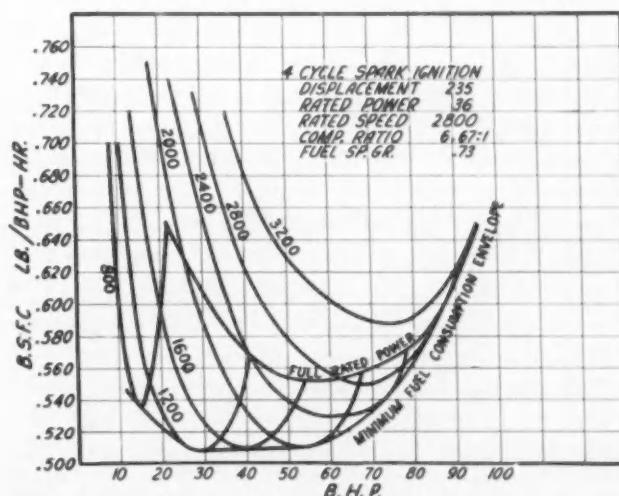

Fig. 2—Typical fuel consumption characteristics of a spark-ignition gasoline engine
Fig. 2 shows the brake specific fuel consumption over the entire speed and load range of a modern commercial gasoline engine. These complete data were available only from the 100-hp engine shown. Typical performance data from large truck type engines of 150 to 250 hp with compression ratios of 5.5 to 6.0 to 1, give brake fuel consumption figures slightly higher than shown for the smaller engine. Thus the comparison with a 200-hp diesel engine is believed to be, if anything, favorable to the gasoline engine.
The carburetor of the engine shown in Fig. 2 was calibrated for best economy at part load and for maximum power at full throttle. Actual economy setting of a commercial carburetor for a multi-cylinder engine is always richer than the lean limit for ignition by the amount required to cover variations in distribution, acceleration, temperature changes, and so forth. The full-throttle setting is usually richer than the theoretically correct proportion to increase the maximum power rating and to avoid detonation. As shown by the "fishhook" curves, this results in an increase in brake fuel consumption of at least 10% at full load.
- Curve No. 1 is the gasoline engine of Fig. 2, which uses regular grade motor gasoline.
Fig. 5 shows the performance of two typical 200-hp gasoline and diesel engines based upon the data of Figs. 2 and 3 converted into gallons per hour at various loads and speeds. It has been assumed that the 200-hp gasoline engine would have the same specific performance as the 100-hp engine of Fig. 2. (This is probably a bit optimistic, since the larger engine would probably have a compression ratio of about 5.7 to 1.)